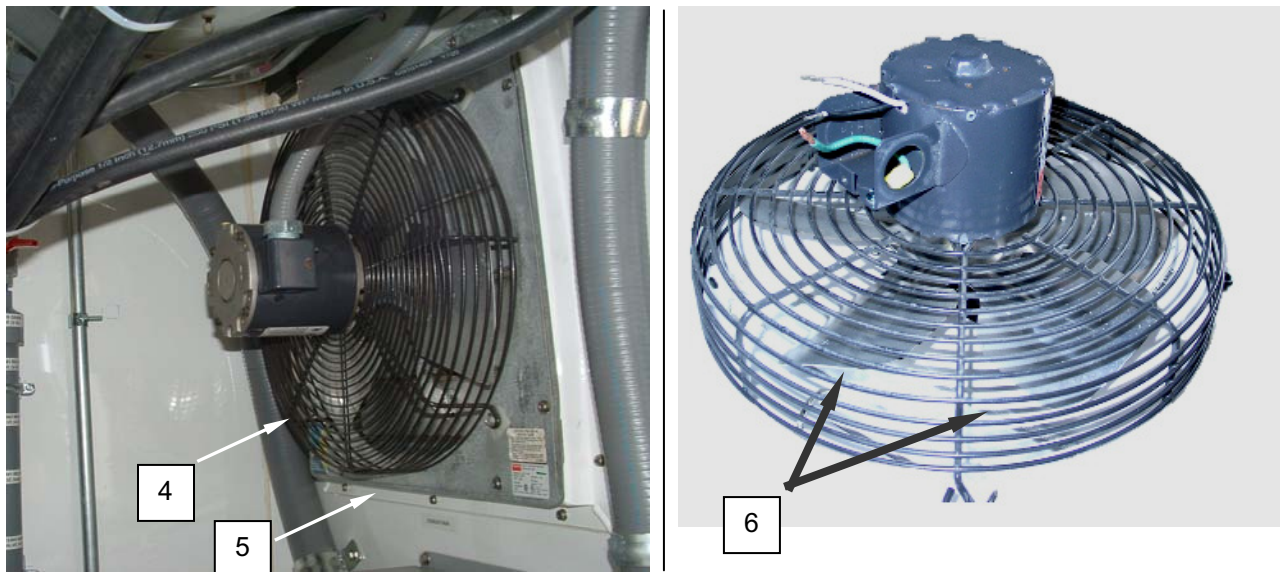

Figure 2. Clean the Exhaust Fan.
2. Remove screws securing fan (**Figure 2, Item 4**) to louver assembly (**Figure 2, Item 5**) and remove fan from louver assembly.
3. Clean fan blades (**Figure 2, Item 6**) with rag or soft brush.
4. Position cleaned fan (**Figure 2, Item 4**) onto louver assembly (**Figure 2, Item 5**) and secure with screws.